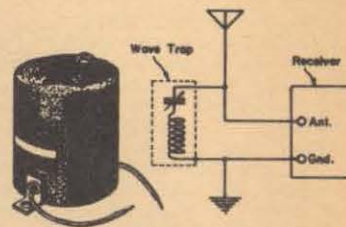
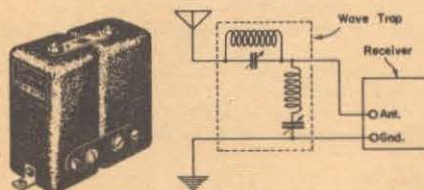

Figure 18
Figure 21 Dual Wave Trap
The cure for such trouble is either to use a first tube which has less tendency to cross modulate, such as a variable Mu remote cutoff tube, or to reduce the amount of interfering signal by any one of the following means: (1) Install an appropriate wave trap such as shown in Fig. 18 over A, tuned to the frequency of the interfering station.
Where "Image" interference is experienced from only one local station, a wave trap can be connected to remove that interference. If, as is sometimes the case, the desired station is an important out-of-town station and the interfering image station is a powerful local transmitter, it may be necessary to employ a double wave trap such as shown in Fig. 21 which gives extreme attenuation to a narrow band of frequencies.
Reception of undesired stations on or near the intermediate frequency is caused by inadequate attenuation to IF ahead of the first detector. Usually, two-gang superheterodynes only are troubled with this type of interference, but occasionally even three-gang receivers will exhibit this type of trouble when close to such interfering stations. The usual remedy is the use of a wave trap of the type shown in Fig. 18 which may be adjusted to the intermediate frequency of the receiver if the interference is weak, or the use of a two section trap similar to the two section image trap illustrated in Fig. 21 if the interference is bad.